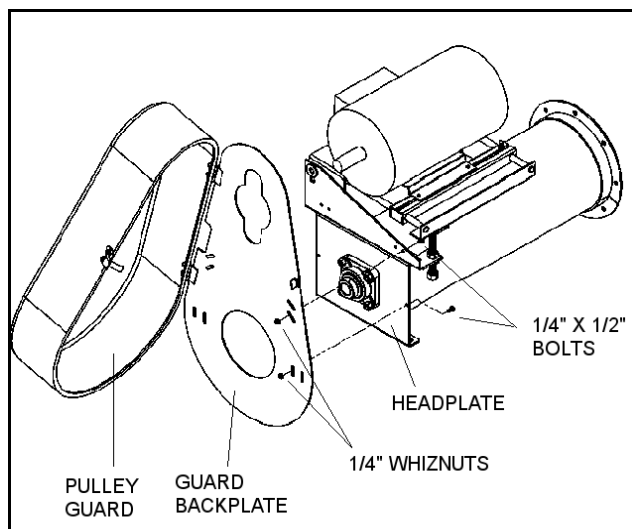

Figure 4.30
2. Attach the pulley guard backplate to the face of the powerhead with four 1/4" x 1/2" bolts and whiznuts. The backplate should sit flush with the head plate (Figure 4.30 and 4.31). Do not tighten bolts/nuts at this time—the pulley backplate will need to be aligned later on.